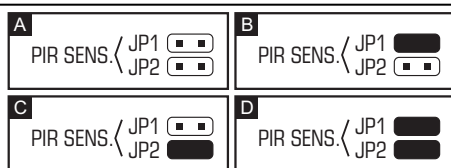

Fig. 2. Setting the detector sensitivity
- PIR SENS** – setting detector sensitivity (see Fig. 2);